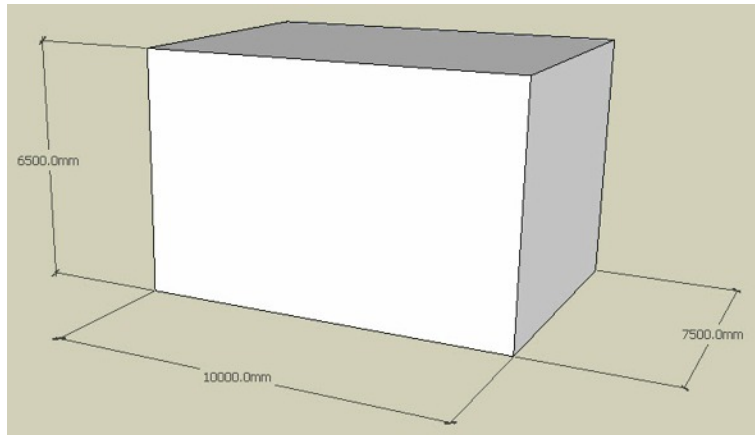

Figure 103. The completed rectangle Pulled to 6500mm with the Push/Pull tool
- Using the **Rectangle** tool draw a rectangle with the dimensions as shown in Figure 103.
- Use the **Push/Pull** tool to pull the rectangle upwards by 6500mm as shown in Figure 103.